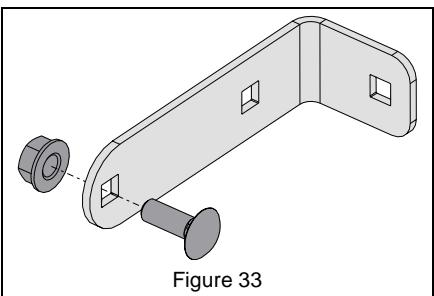

Figure 33
1. Remove hardware retaining L-bracket to battery bracket and reinstall hardware into L-bracket hole nearest curved edge. See Figure 33.